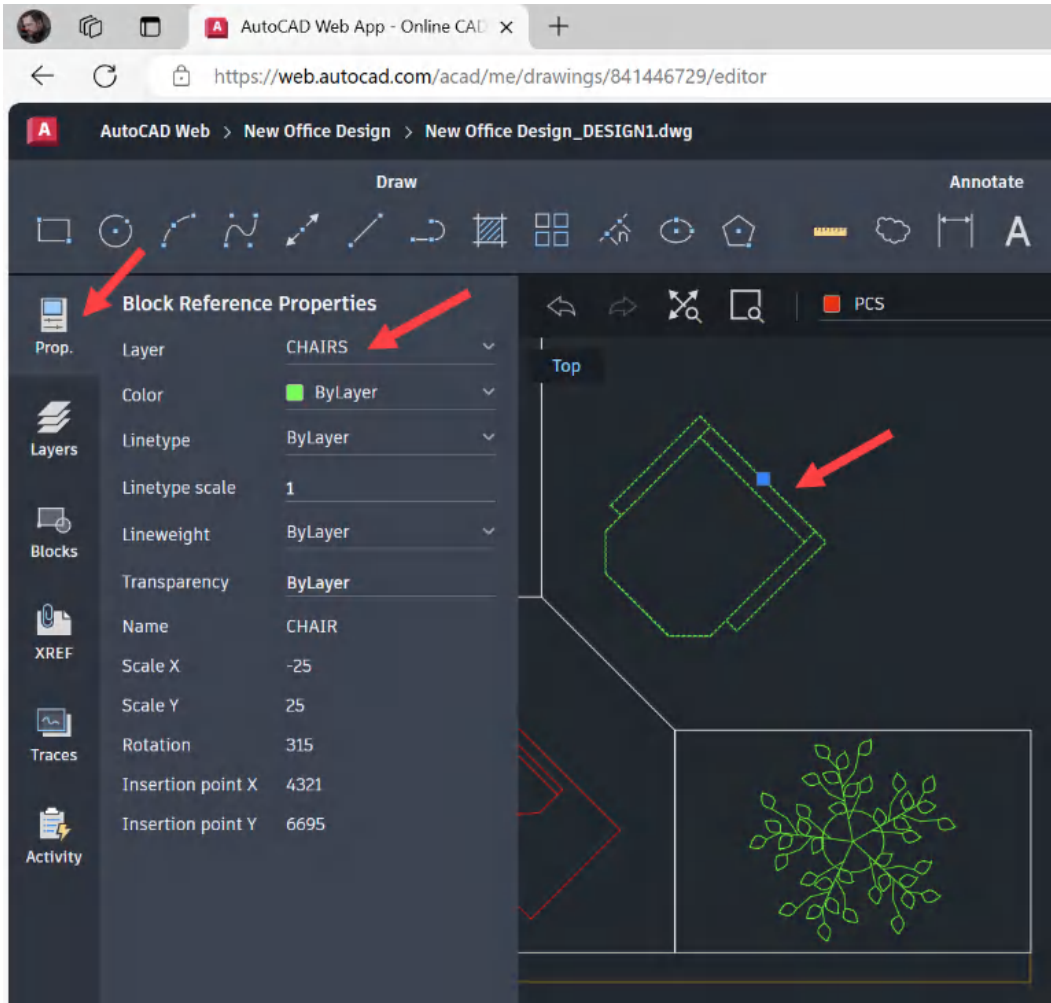

Figure 13.9: The selected chair in AutoCAD Web
1. AutoCAD Web uses a similar interface as the AutoCAD desktop application, so zoom into the top-left office cubicle using your mouse and select the chair by clicking on it. It will highlight and display the insertion grip, as shown in *Figure 13.9*.